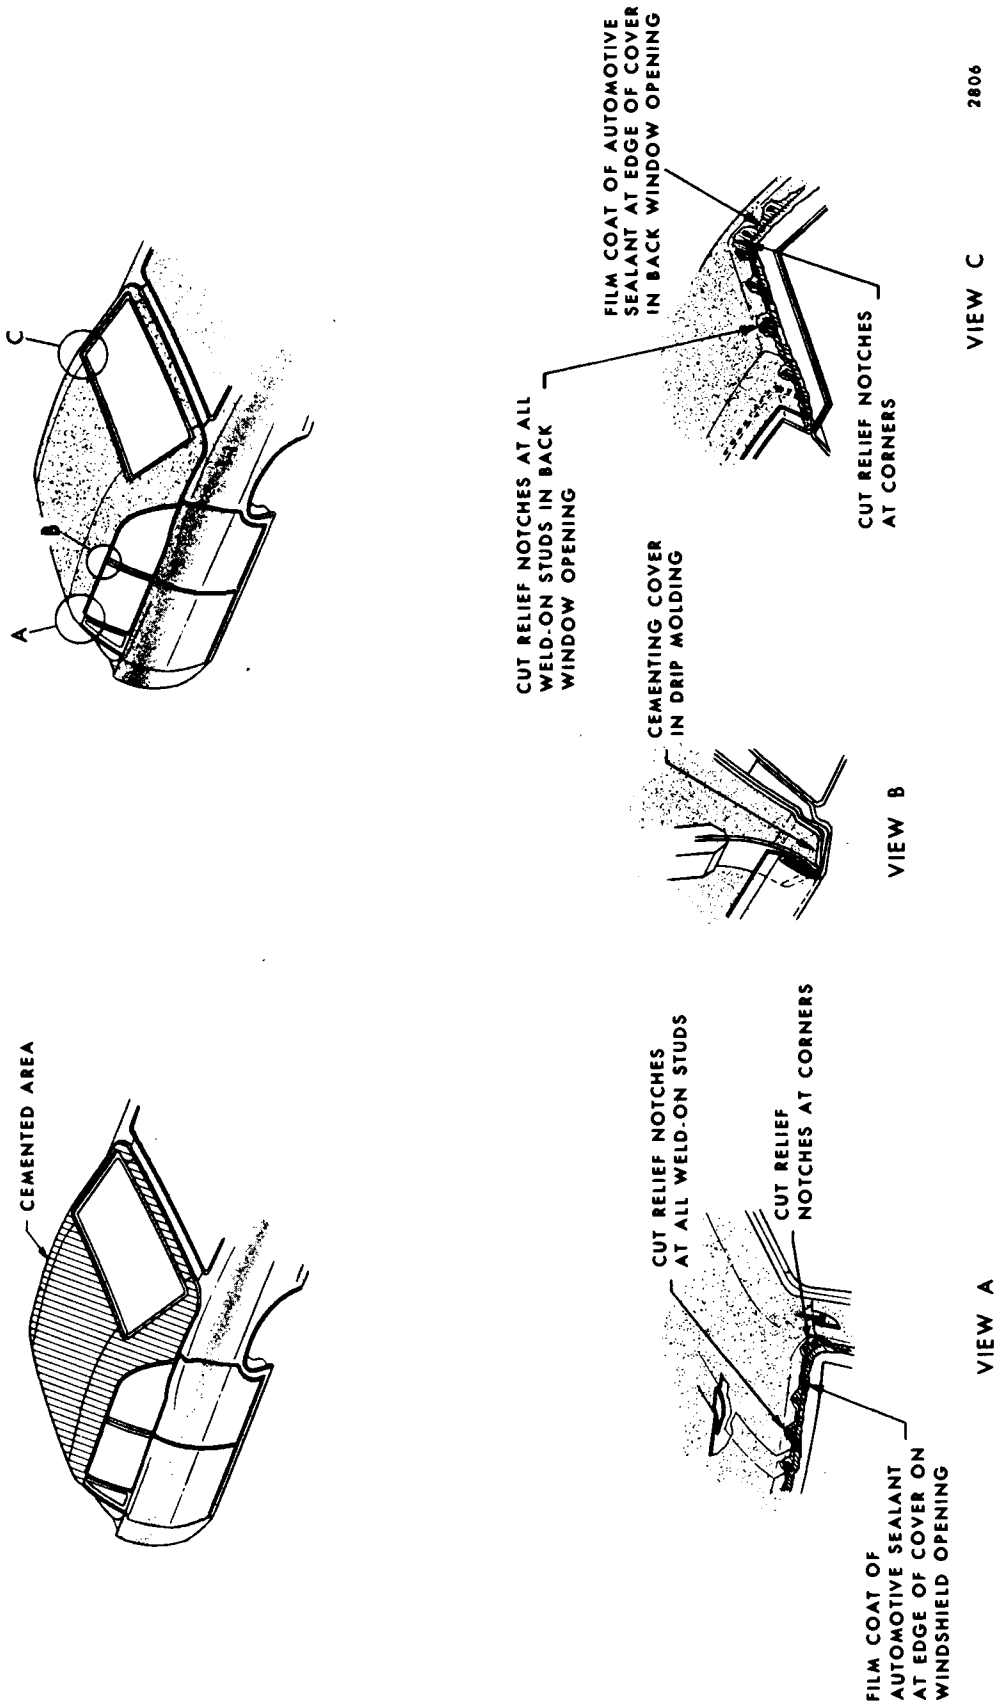

Fig. 12-6—Typical Fabric Roof Cover Installation without Pad or Roof Panel Moldings
12. On styles where the cover extends into the windshield or back window opening, perform the following (Fig. 12-6):
23. Apply a "film" coat of silicone sealant such as Dow Corning Automotive Sealant, General Electric RVP Sealant, or equivalent, to the edge of cover in windshield and back window opening and at belt area; also, at edges on roof panel when roof panel moldings are used. Make certain edge of material around all reveal molding clips that were not removed is also sealed (Figs. 12-6 & 7).